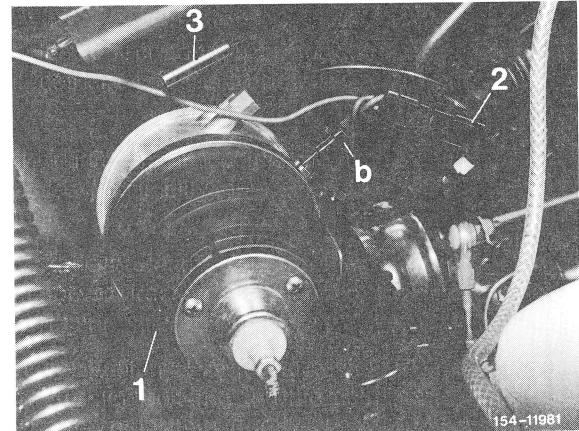
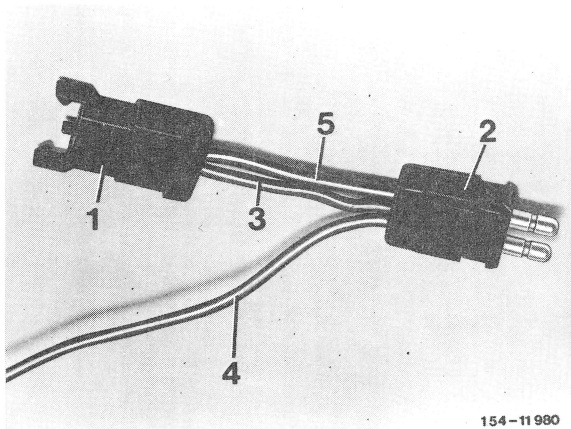

Fig. 2
Fig. 1
1. Connect the self made test cable (Figure 1) between the 2-pole connection on the throttle actuator and the 2-pole plug on the wiring harness (b, Figure 2).